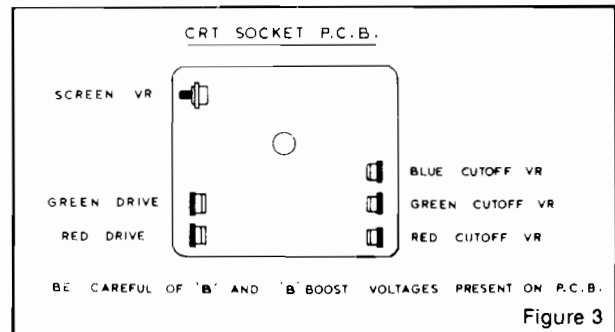

Figure 3
1.5 Turn off the green and blue fields and adjust setup controls to produce a red field. (See fig. 3)
Refer to figure 3. Do the following in subdued light: